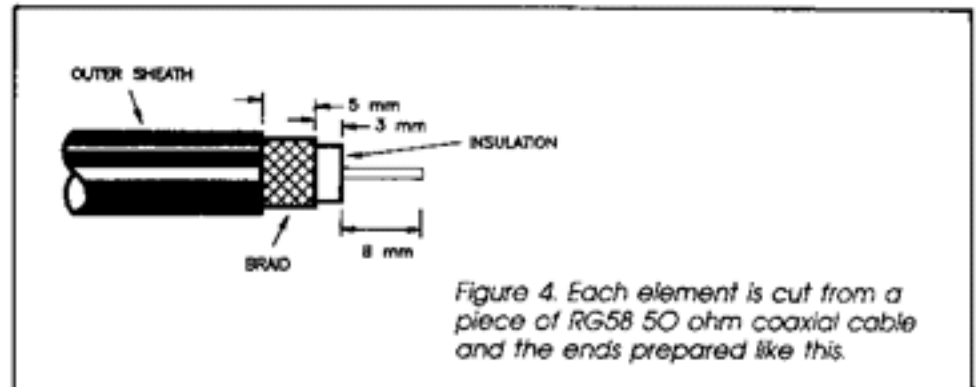

Figure 4. Each element is cut from a piece of RG58 50 ohm coaxial cable and the ends prepared like this.
3) Prepare each end of seven elements, and only one end of the eighth element, as detailed in Figure 4. The eighth element will become the 'top' element of the antenna.
6) With the ends of all the elements prepared as per Figure 4, now tin the exposed centre conductor and shield braid on each. Use a hot iron, preferably
10) Now for the feedpoint and groundplane. You'll have a short length of RG58 left over. Attach a suitable in-line connector, such as a BNC male, to one end and prepare the other end as per Figure 4.
prepared as per Figure 4, now tin the exposed centre conductor and shield braid on each. Use a hot iron, preferably a temperature controlled type. A flat-faced ('spade') tip is best for this job. Apply the tip to the part to be tinned